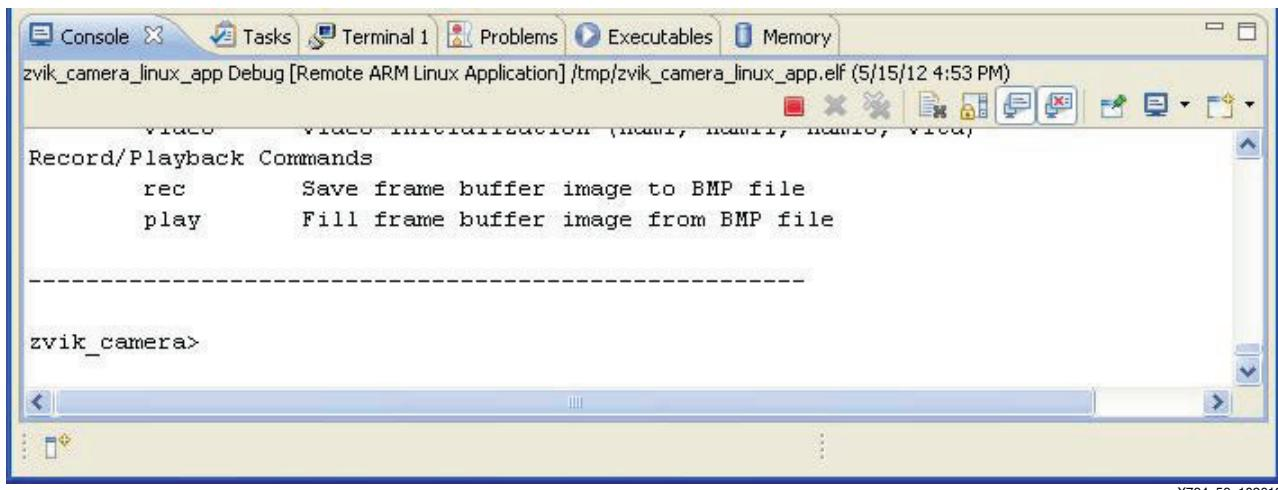

Figure 59: Example Console Output
13. Click the **Resume** button (or press F8). The console output shown in Figure 59 is displayed.